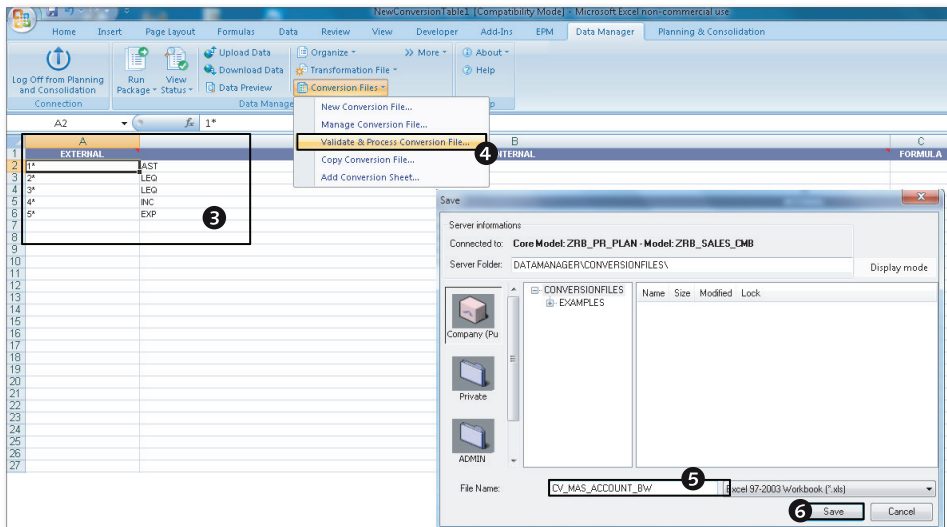

Figure 4.32 Loading Data from an InfoObject into a Dimension—Part B
5. Enter external values in the EXTERNAL column and the corresponding values in the INTERNAL column (Figure 4.32, ③). The value in the EXTERNAL column is converted to the corresponding INTERNAL column value when converting the data. For example, any value in the ACCTYPE property that begins with "1" is converted to the value AST.
6. Select the VALIDATE & PROCESS CONVERSION FILE option under the CONVERSION FILES menu to validate, and then save the conversion file (Figure 4.32, ④). This opens the SAVE dialog box.
7. In the SAVE dialog box, enter the name of the conversion file "CV_MAS_ACCOUNT_BW", and click on SAVE (Figure 4.32, ⑤ and ⑥).